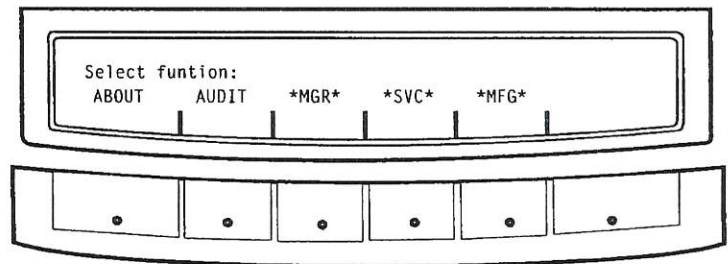

Figure 4
- MORE** - This soft key accesses more soft keys shown in Figure 4.
2. Press the **MORE** . . . soft key. . . The soft keys in Figure 4 appear.